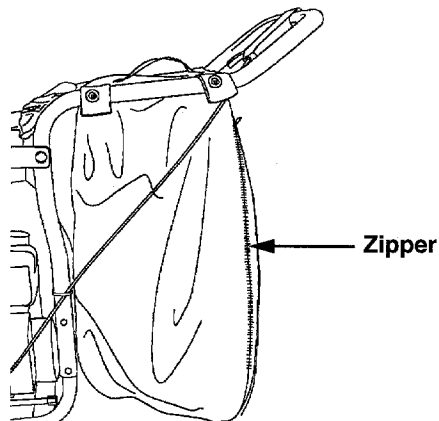

Figure 7
**IMPORTANT:** Open the large zipper to empty the bag. Be certain the zipper is closed when operating the unit. See Figure 7.